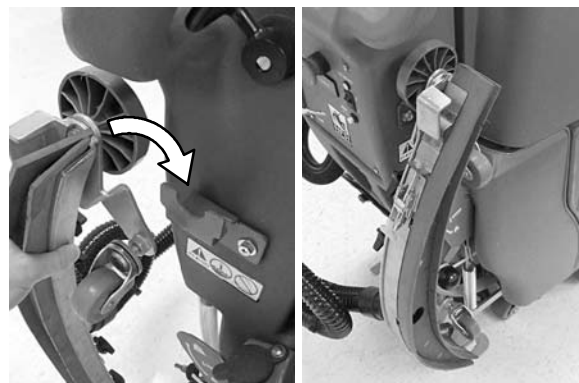

FIG. 21
- When transporting or storing machine, remove the squeegee assembly and hang it on the storage bracket (Figure 21).